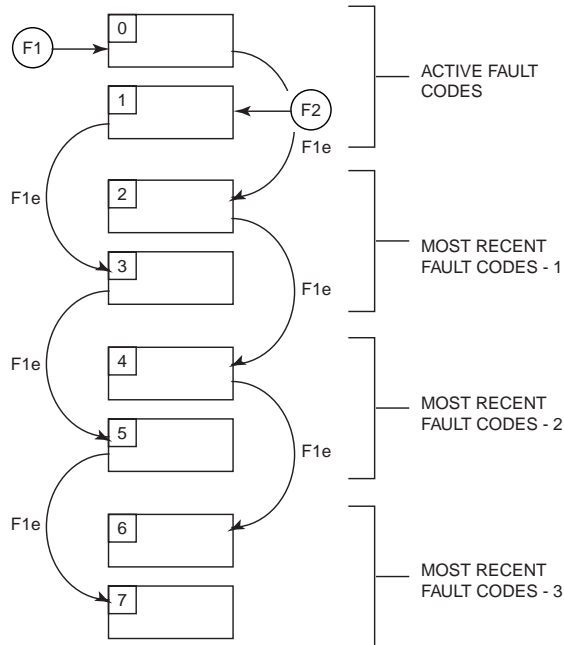

Figure 40. Display of Fault History.
- LAST FAULT (r0947(0)) shows the code for the most recent fault. Fault history displays according to Figure 40, where: